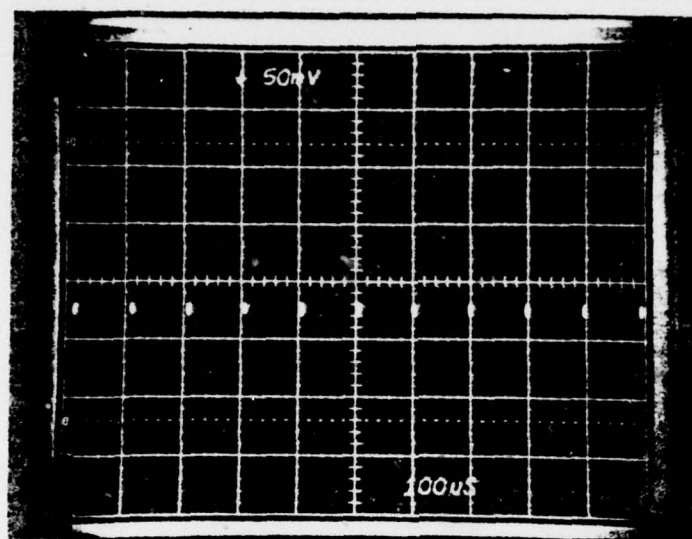
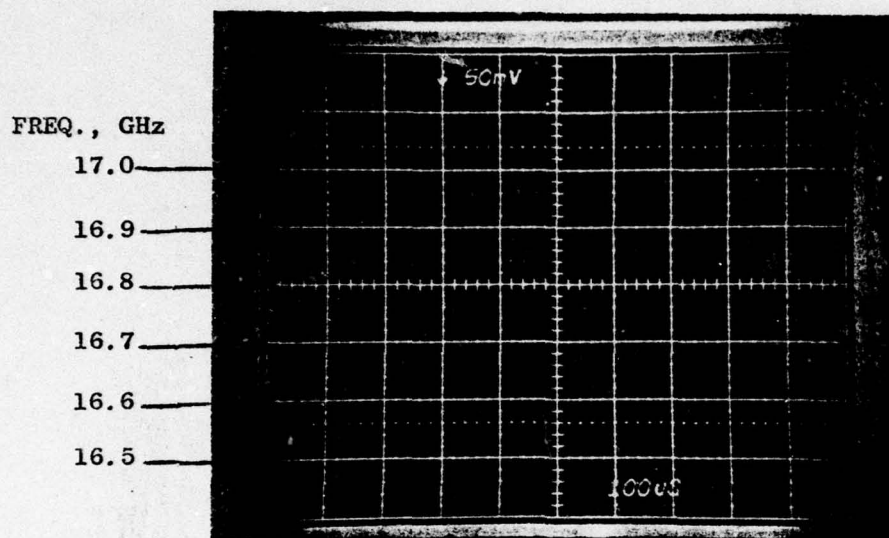
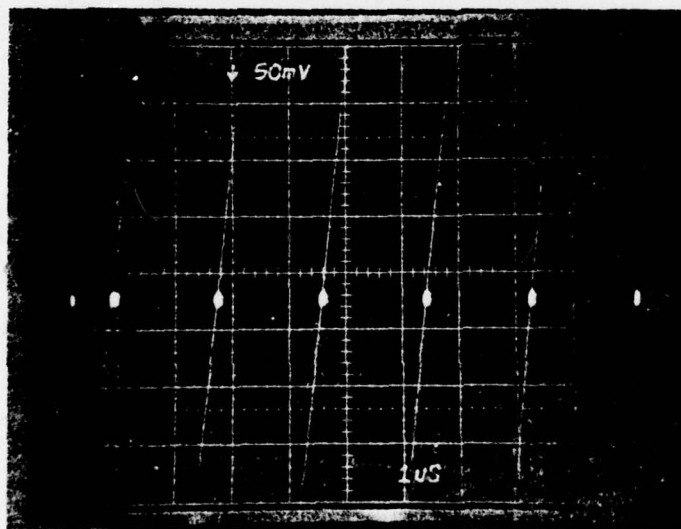

FIGURE 1
FIGURE 3
FIGURE 8
SYNC output from the microscan is used to (1) synchronize the display scope, (2) generate a ramp in the processor for a raster display of received frequency. Circuitry in the processor generates a Z-axis intensification pulse each time a signal from the microscan crosses the threshold. Lockout circuits preclude processor response to more than one signal per microscan sweep; i.e., the first signal of each sweep is the one that is processed. The intensified pulses result in a display similar to Fig. 1, a display of frequency (vertical) vs. time (horizontal).
Set the B channel from AC-GND to AC coupling. The raster will now be calibrated as in Fig. 3. Each major division on the vertical axis will denote a frequency change of 100 MHz. Decrease intensity so the raster can just not be seen.
The frequency of the received signal may be determined by displaying a raster which is generated by the RAMP GENERATOR. Fig. 8 shows an expanded view of the raster with intensified spots indicating reception of a signal (recall Fig. 1 which shows the scope face with a raster display of a signal with 10 KHz PRF). The sweep speed of Fig. 1 is slow compared to Fig. 8 to allow observation of the signal's PRF. The sweep speed used in Fig. 8 could be used to determine the pulse width of signals with pulses longer than $1.8\text{ }\mu\text{sec}$. The vertical position is proportional to received signal frequency; calibration was shown in Fig. 3.